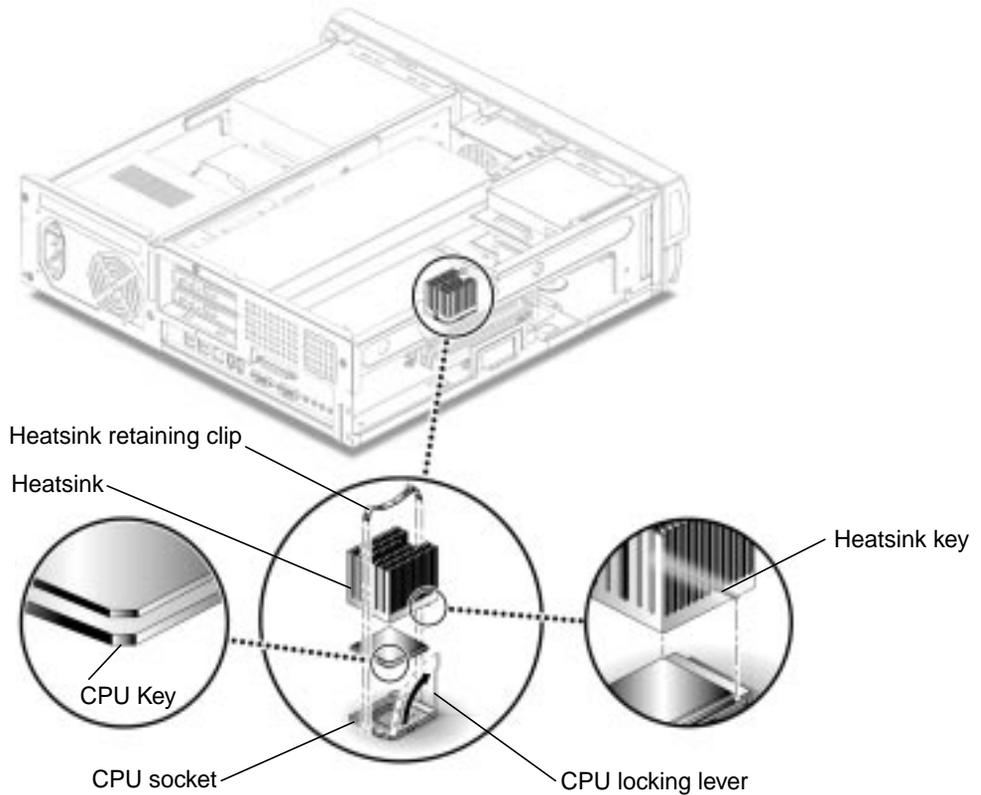

FIGURE 8-1 Removing and Replacing the CPU
Caution – The CPU will be damaged if you replace it incorrectly. Before you remove the CPU, look at the CPU and observe where the diagonally cut corner (“key”) of the CPU fits onto the socket. Viewed from the front of the system chassis, the key is at the left rear corner of CPU (FIGURE 8-1).
3. **Press the tab on the front of the heatsink retaining clip (FIGURE 8-1).**
1. **Position the CPU over the motherboard CPU socket** (FIGURE 8-1).
Caution – The CPU will be damaged if you replace it incorrectly. Ensure that the CPU key is correctly positioned before you attempt to press the CPU into the socket. Viewed from the front of the system chassis, the key is at the left rear corner of CPU. The key is the diagonal corner cut on the CPU (FIGURE 8-1).
2. Ensure that the CPU locking lever is in the full upright position as shown in FIGURE 8-1.
Caution – The CPU could be damaged if you install the heatsink incorrectly. Ensure that the heatsink key is positioned correctly over the CPU. The key is on the bottom of the heatsink. The heatsink key should be installed closest to the front of the system chassis. See FIGURE 8-1.